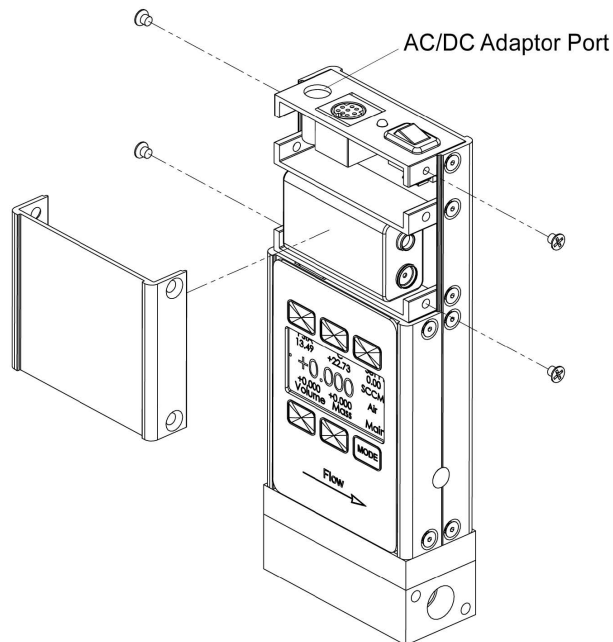

Figure 11 Battery cover removal
- 1 Remove the four Phillips head screws from the front cover and gently remove it as shown in Figure 11.